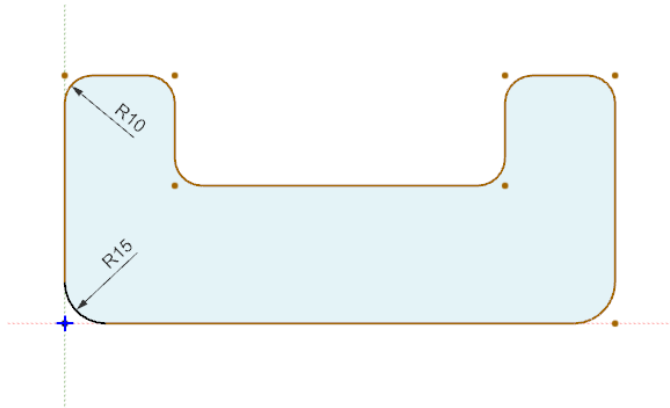

Figure 2-72 Sketch for Tutorial 2
7. Right-click and then choose the **OK** option from the shortcut menu to exit the **Fillet** tool. The fillets are created, refer to Figure 2-72.